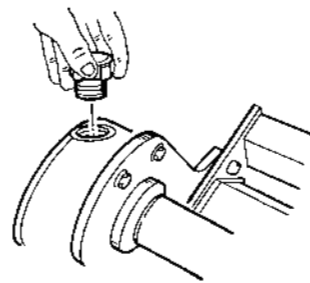

Fig. 20
- 6 Final Drive Gearbox - With tiller level, remove oil level check plug on side of gearbox housing. Correct oil level is at bottom of check plug. Add oil if necessary. Gearbox housing capacity is 2 pts (Fig. 20).